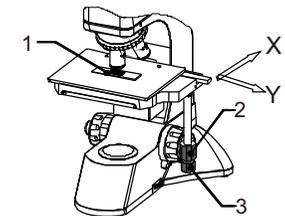

Fig.10
Place the metallurgical specimen or sample 1 on the stage and press with two spring clips. Turn the control knob 2 and 3 to adjust the longitudinal (Y) and transverse (X) movement of the stage, make the specimen or sample observation area under the objective, The knob 2 control the longitudinal movement, the knob 3 control transverse movement. The stage mobile range is 50mmX70mm for X and Y. as shown in Fig. 10